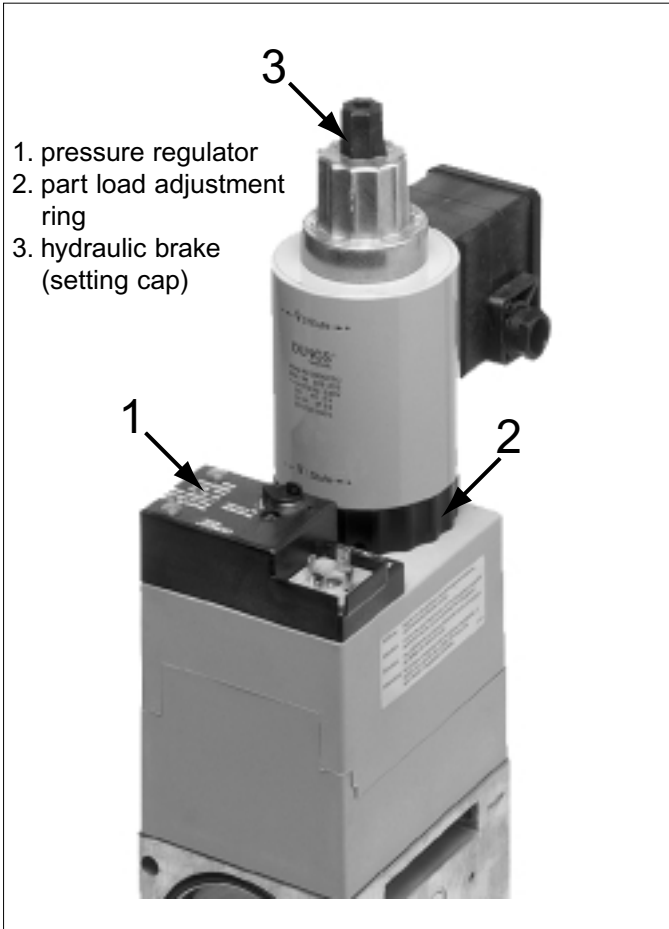

Fig. 10 Dungs MB-ZRDLE 415 / 420 S22.
12. Set the correct **full load burner pressure** by means of the pressure regulator on the gas multibloc gas valve (see Fig. 10, pos. 1).
- Set the part load burner pressure by turning the adjustment ring (Fig. 10, pos. 2).
- Remove the setting cap (Fig. 10, pos.3) and turn it upside down on the hydraulic brake.
- Check whether the gas pressure switch HD comes to action at the set value by increasing (Fig. 10, pos.1) the full load burner pressure to that value. The boiler will lock out.